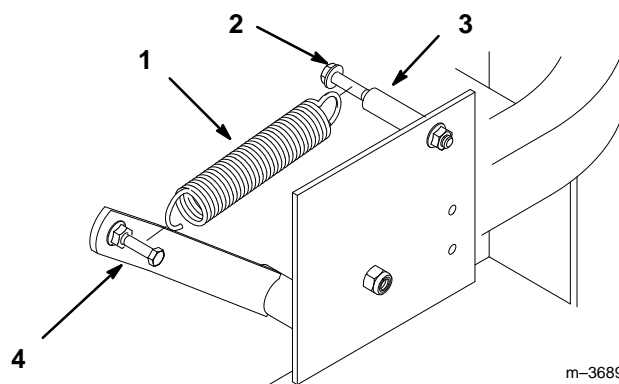

Figure 10
4. Install the PTO clutch spring. Hook one end around frame bolt, between washer and spacer (Fig 10). Stretch spring and hook other end to the PTO idler arm.